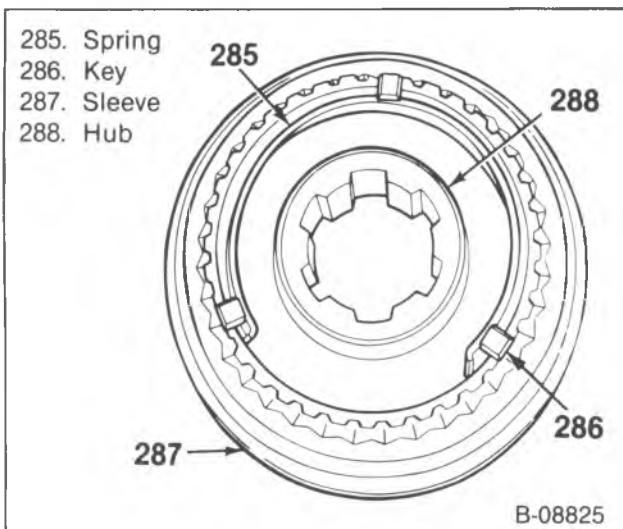

Figure 35—Synchronizer Assembled
1. 3-4 synchronizer (205), (figure 35).